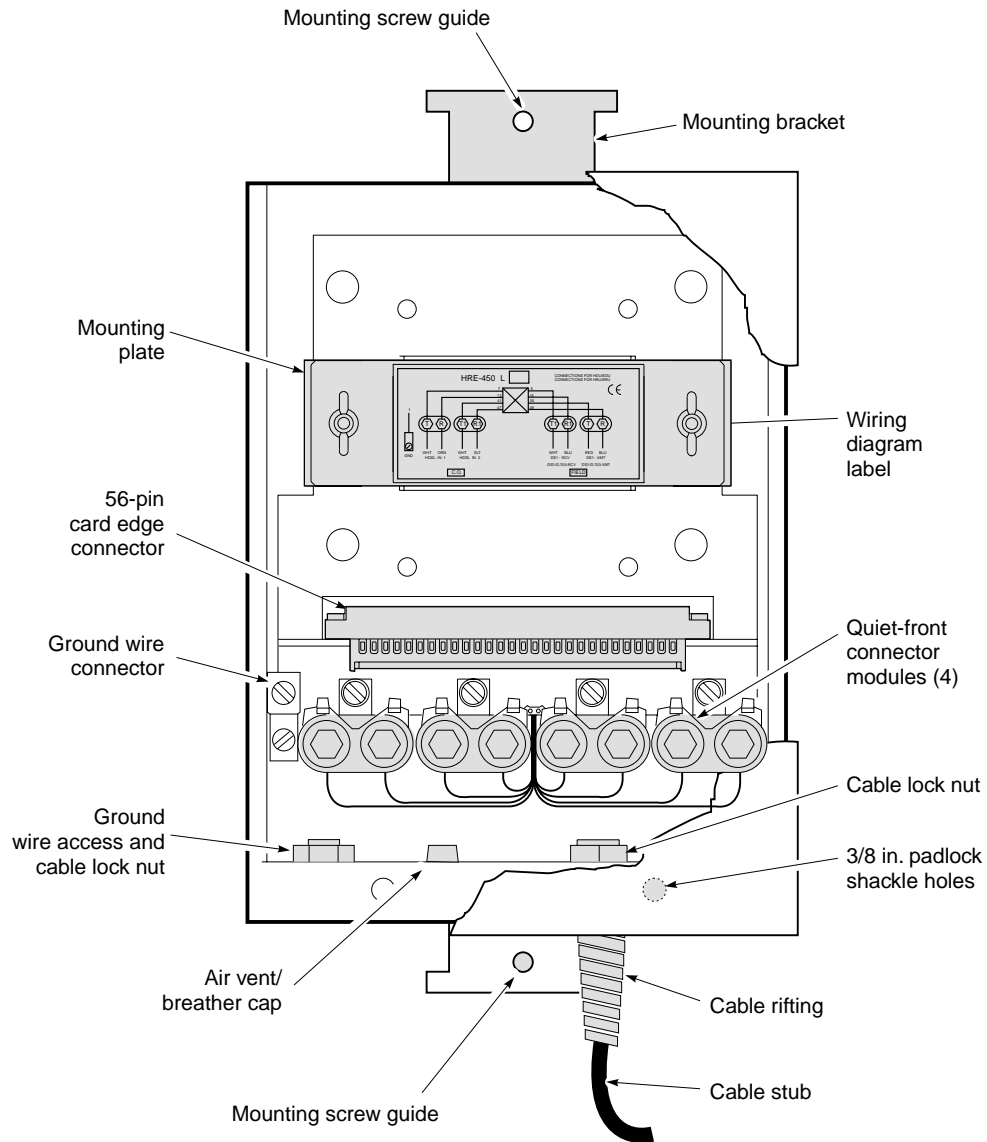

Figure 2. HRE-450 List 4A Components
Figure 2 and Table 1 on page 4 identify the HRE-450 List 4A components.
- 2 Feed solid ground wire, up to #6 AWG, through the HRE-450 List 4A ground wire access (see Figure 2 on page 3 for the ground wire access location).
- 5 Use your fingers to tighten the ground wire connector (see Figure 2 on page 3 for the ground wire connector location).
- 6 Loosen the cable lock nut (see Figure 2 on page 3 for cable lock nut location).